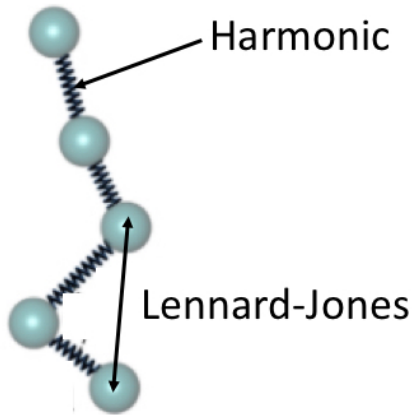
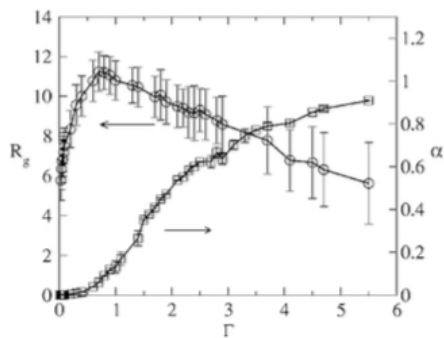

Figure 1: Bead spring model of a flexible polymer showing two most common potentials used.
Figure 2: Effect of electrostatic strength on  $R_g$  and fraction of adsorbed ions of an isolated polyelectrolyte chain.2
A polymer is represented as a bead spring model as shown in Fig. 1. For a flexible polymer, the most common potentials are short-range Lennard-Jones (LJ) potential between unconnected beads and the harmonic potentials between connected beads. The LJ potential in
IV. We will reproduce some results from Ref.2 This simulates an isolated polyelectrolyte chain equilibrium properties in the presence of its counterions. The free energy of the system determines how many monomers along the polymer chain will be neutralized by a counterion and how many will not, on an average. This exercise is for understanding some of the problems in modeling isolated polyelectrolyte chains and the effect of charge separation distance on the degree of adsorption of ions. Use *Charged\_Flex* folder for generating the lammps scripts (Follow the same protocol as provided for neutral system). The only things you need to change in the input files are box size in config.in file and the QFACTOR\_convert2LJ in the parameters.in file. First step is to estimate  $1e$  in LJ units corresponding to  $\sigma = 0.25$  nm and put it in front of QFACTOR\_convert2LJ in the parameters.in file. Next, start with smaller box dimension (-30 to 30 in all dimension) in config.in file. Create the in and data files and run lammps. Compare the fraction of adsorbed ions and  $R_g$  with the Figure.1 of
Ou and Muthukumar paper2 provided in the folder. Do you get the right value? Due to long range interactions, the periodic images can influence the properties of the chain. Therefore, we are not truly simulating an isolated chain if it can feel the periodic images. Increase the box dimension by 10 units and see whether you can get the expected result. If not then increase by 10 more units. At this stage you must be able to reproduce the result. Using this box dimension, simulate two other systems with  $\sigma = 0.7$  nm and  $\sigma = 1.0$ nm. Can you reproduce the trend in Figure 1 of the attached reference? The figure is also presented here in Fig. 2